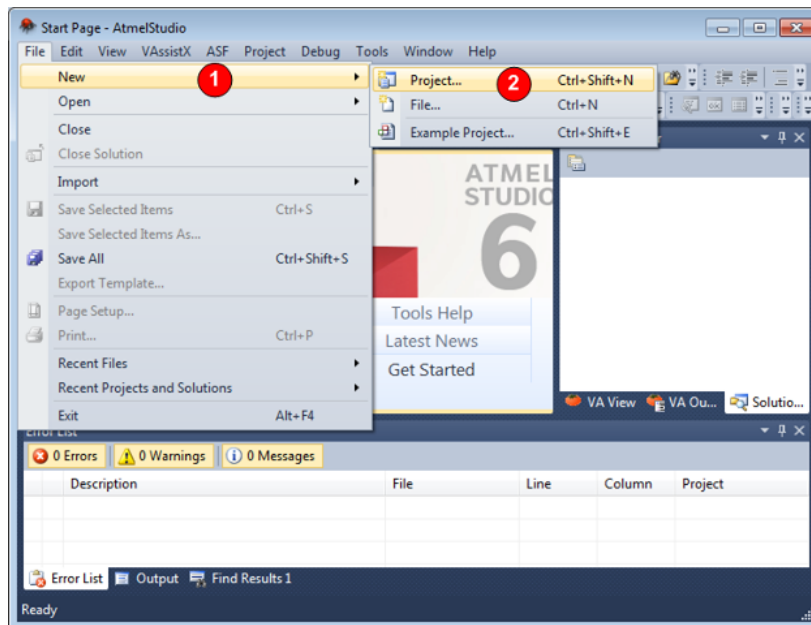

FIG 1. Creating a new Atmel project
- Go to the File menu. Choose New and then Project (Figure 1).